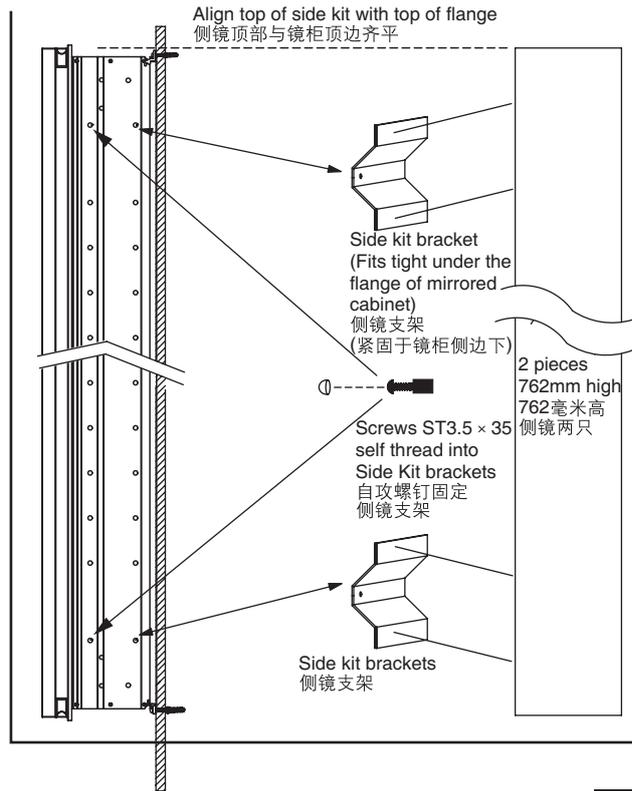

Fig. 6 图6
- Attach the side kit brackets to the cabinet as shown in Fig.6.
安装侧镜支架，如图6。